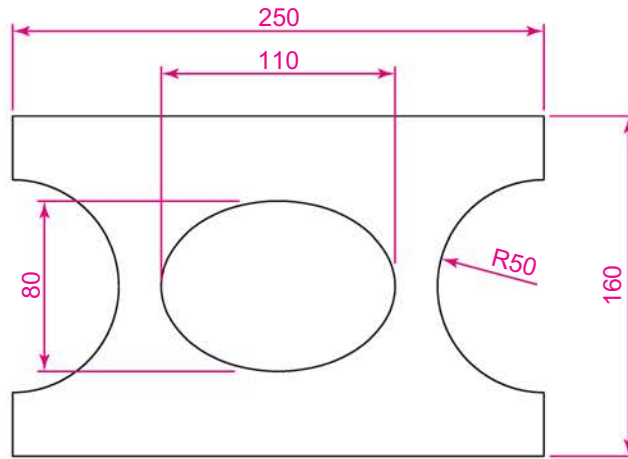

Fig. 9.48 Exercise 7
7. Working to the dimensions given in Fig. 9.48, construct an extrusion of the plate to a height of 5 units.